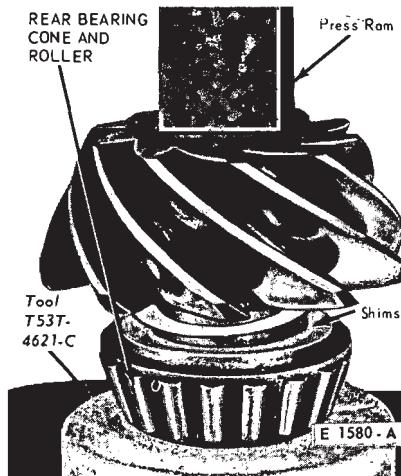

FIG. 19—Drive Pinion Bearing Installation
1. Place the shim(s) and pinion rear bearing cone on the pinion shaft. Press the bearing and shim(s) firmly against the pinion shaft shoulder (Fig. 19).